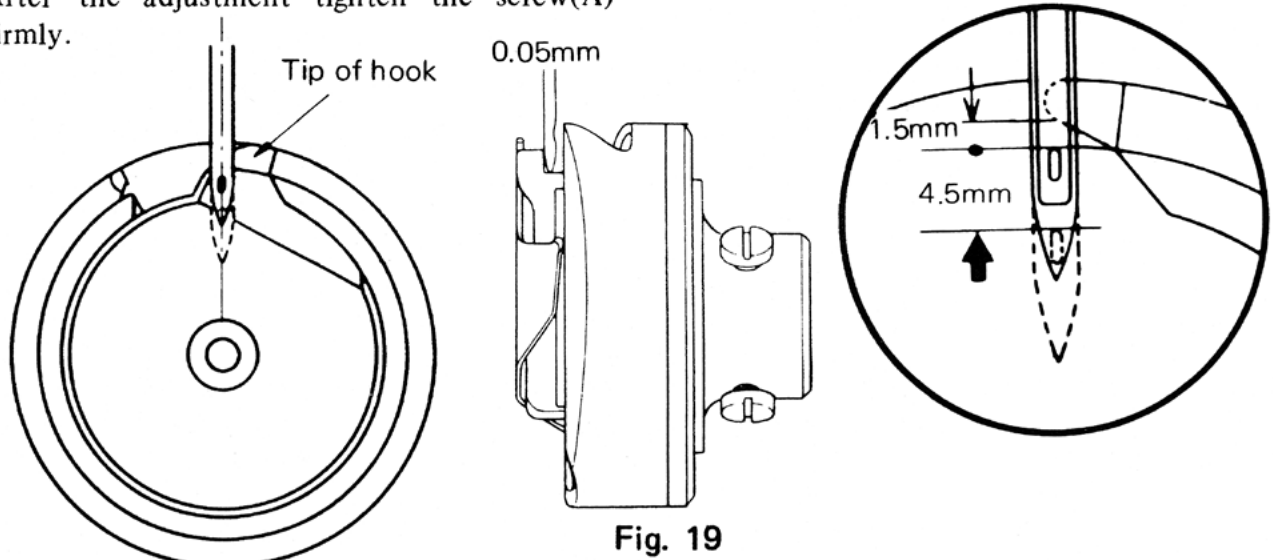

Fig. 19
- (1) Turn the balance wheel by hand so that the needle comes to its lowest position. Thereafter, raise the needle by 4.5mm from the lowest position, and then adjust the hook so that the tip of hook comes to the center line of the needle (Fig.19).
- (2) The gap between the concave face of the needle and tip of hook would be approx. 0.05mm as shown in Fig. 19.